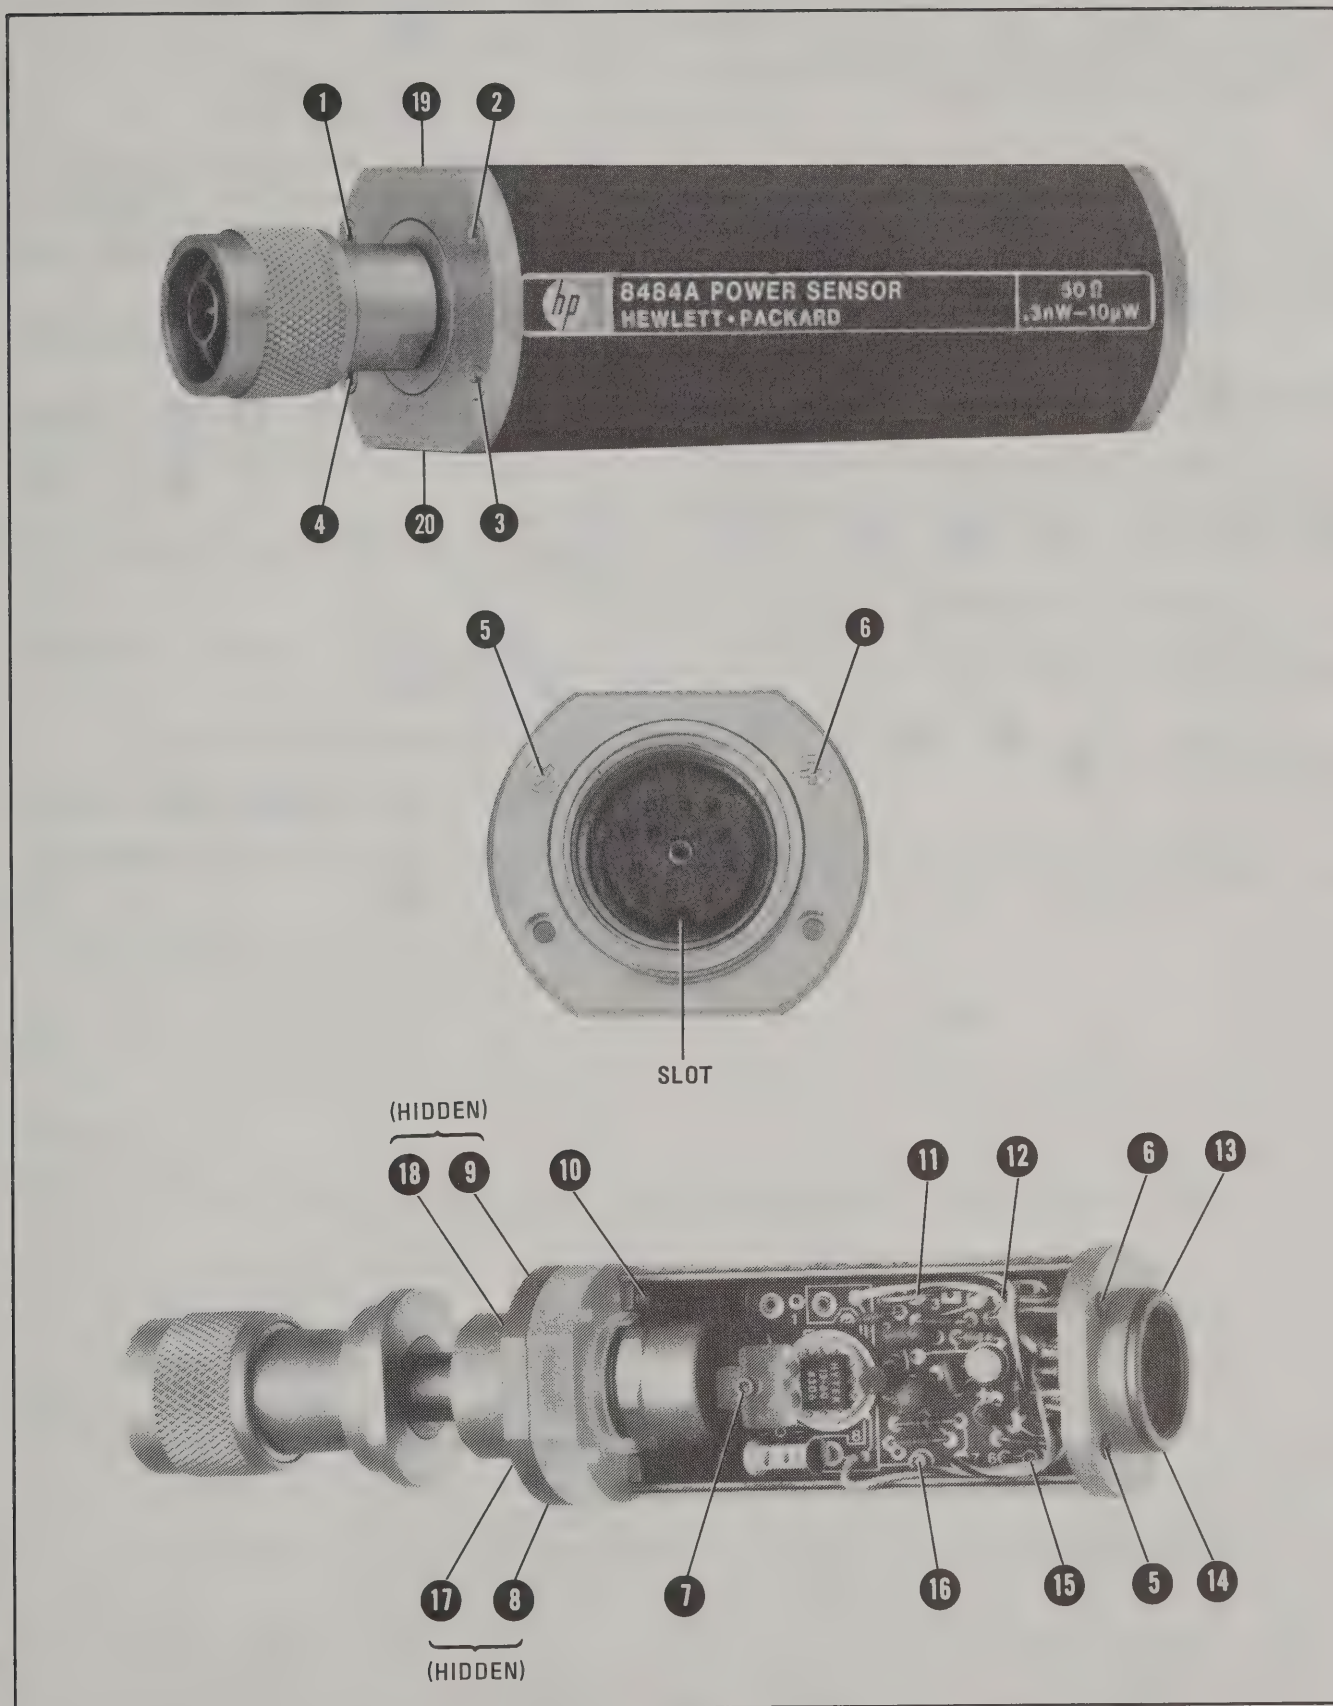

Figure 7. Power Sensor Disassembly and Assembly
78. In detail, the steps above are performed as follows. (Refer to Figure 7.)
c. Insert, but do not tighten, screws 11 through 16. Refer to Figure 7.